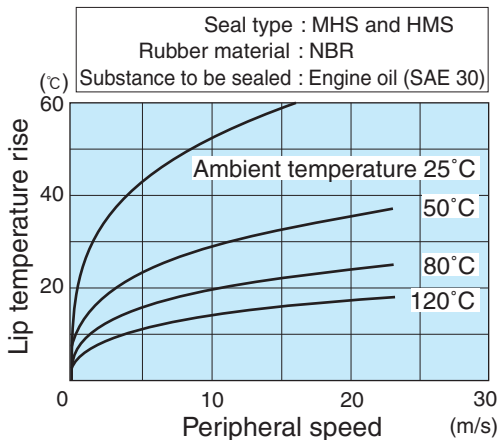

Fig. 1.6.4 Estimated lip temperature rise curves (reference)
- ② Determine the supposed ambient temperature
- ③ Find the point at which the ambient temperature curve meets the calculated shaft surface speed in Fig. 1.6.4
- ④ Read the ordinate value of the point
- ⑤ Obtain the estimated lip temperature by the sum of the ordinate value and ambient temperature
In Fig. 1.6.4, the cross of the curve for ambient temperature 80°C and peripheral speed 10.5 m/s indicates that the lip temperature rise will be 20°C .